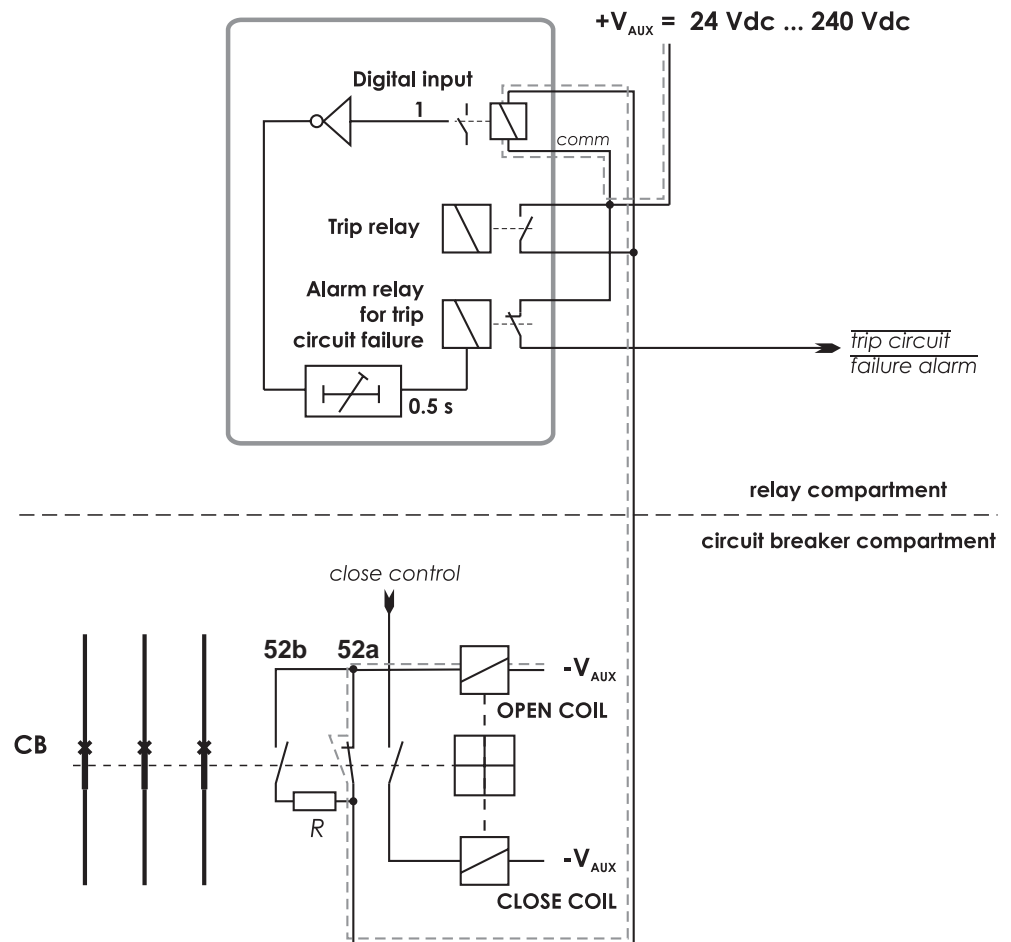

Figure 6.10: Trip circuit supervision using a single digital input and an external resistor *R*.
- The digital input is connected parallel to the trip contacts (Figure 6.10).
- The digital input is configured as normal closed (NC).